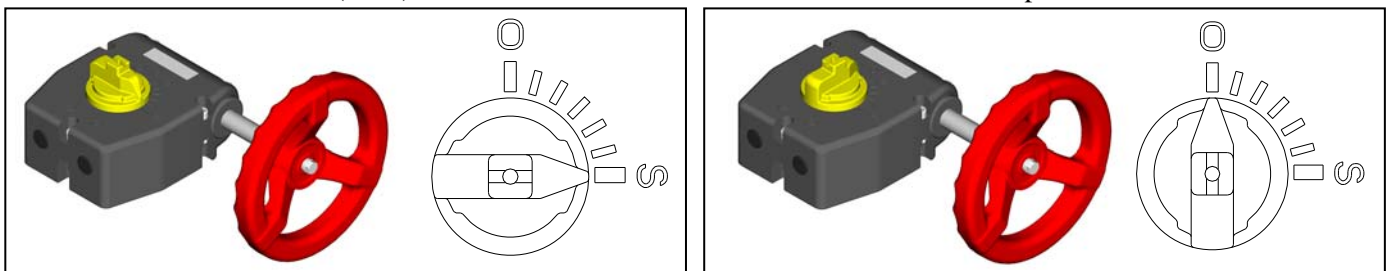
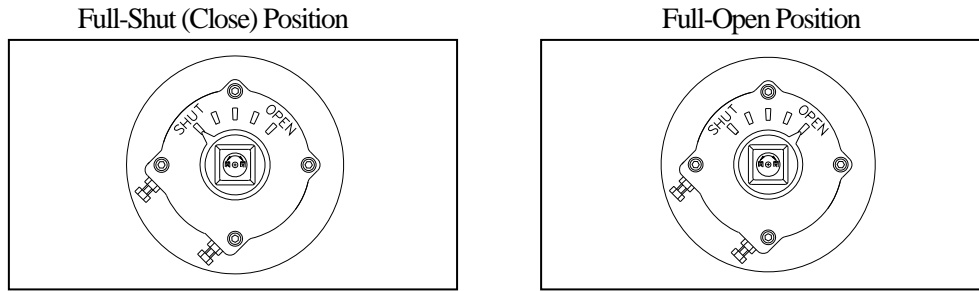

Fig.9-2
Fig.9-3
- 3) In case of gear type (40-350 mm { 1 1/2"-14" }), the indicator shows the position of the disc on the top of gear box. (Fig.9-2, Fig.9-3)
- For the full-shut (close) position, the indication shows Shut (S).
- For the full-opened position, the indication shows Open (O).